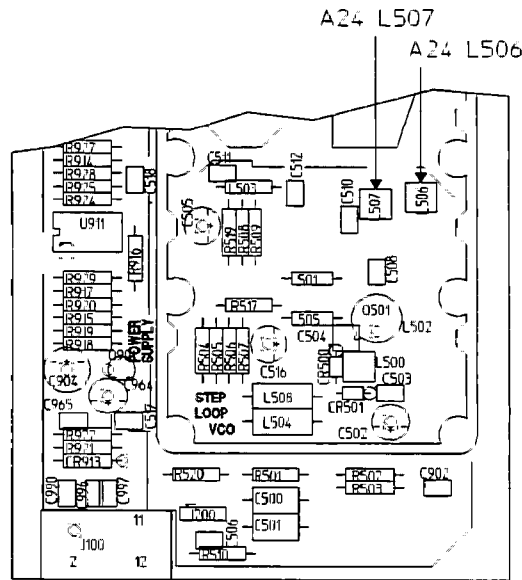

Figure 1-6. A24 Step VCO Component Locator
d. Set the power switch to ON (I), then press the following keys:
e. Through the holes in the shield can, alternately adjust A24 L506 and L507 (see figure 1-6) for a flatness (maximum amplitude minus minimum amplitude) of less than 3 dB(p-p).